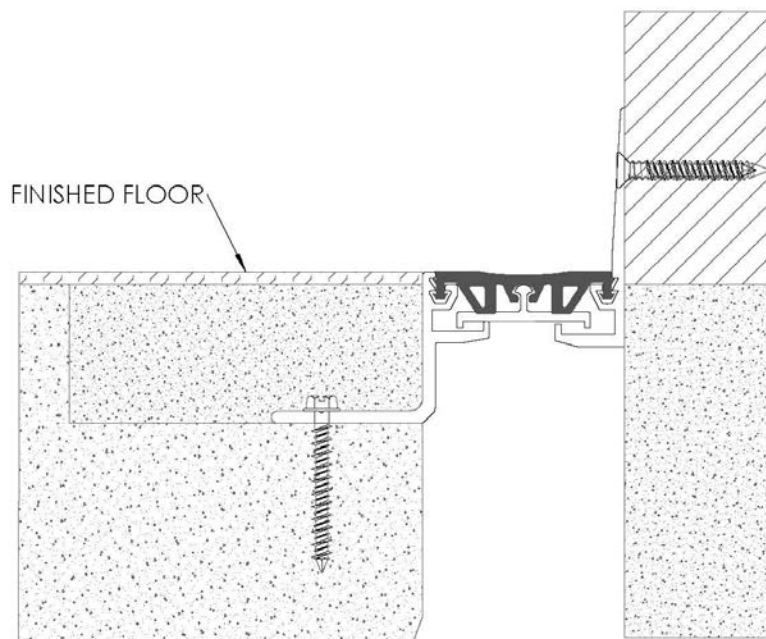

FIGURE 7
7. After infill material has cured, finished floor (by others) may now be installed. **See Figure 7**